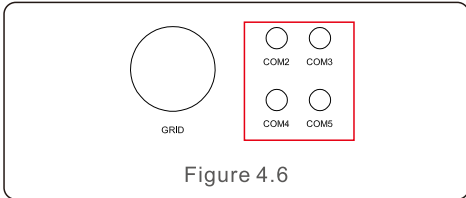

Figure 4.6
- b. Remove the cap nut from the waterproof cable glands labeled at the bottom of the inverter. Remove the plug from the fitting. (in Figure 4.6).